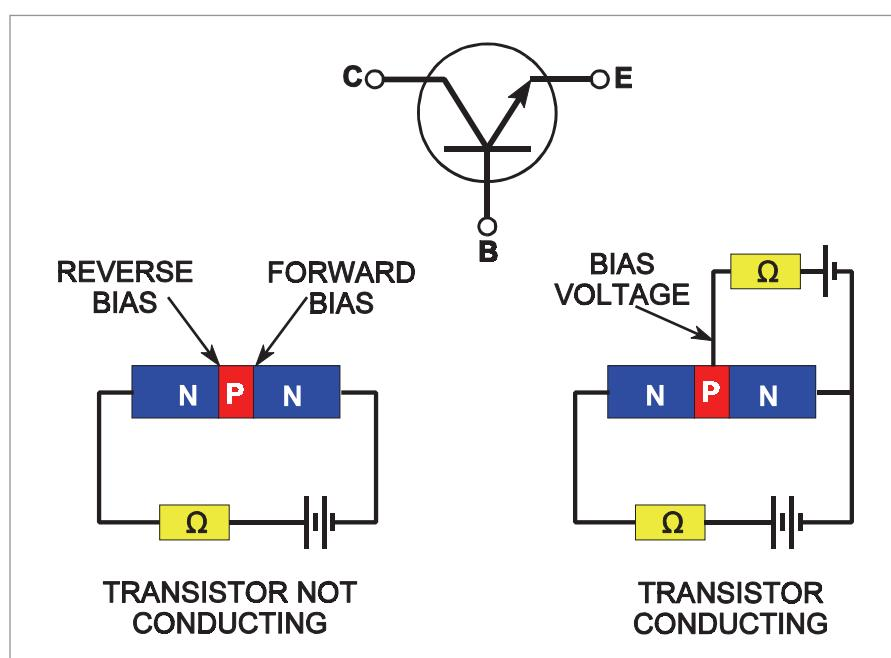

Figure 16.9 Transistor conduction
**Operation. N-P-N Transistor:** If we apply an EMF across the Collector - Emitter region, as shown in *Figure 16.9 left*, no current flows.
However, if we now add an EMF between across the Base - Emitter region, as shown in *Figure 16.9 right*, a large current flows from Emitter to Collector.